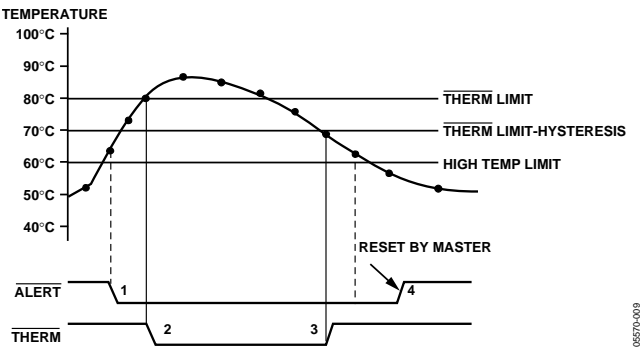

Figure 20. Operation of the $\overline{\text{ALERT}}$ and $\overline{\text{THERM}}$ Outputs
Figure 20 shows how the $\overline{\text{THERM}}$ and $\overline{\text{ALERT}}$ outputs operate. The $\overline{\text{ALERT}}$ output can be used as an $\overline{\text{SMBALERT}}$ to signal to the host via the SMBus that the temperature has risen. If the temperature continues to increase, the $\overline{\text{THERM}}$ output can be used to turn on a fan to cool the system. This method ensures that there is a fail-safe mechanism to cool the system, without the need for host intervention.
- The $\overline{\text{THERM}}$ output deasserts (goes high) when the temperature falls to $\overline{\text{THERM}}$ limit minus hysteresis. In Figure 20, the default hysteresis value of 10°C is shown.